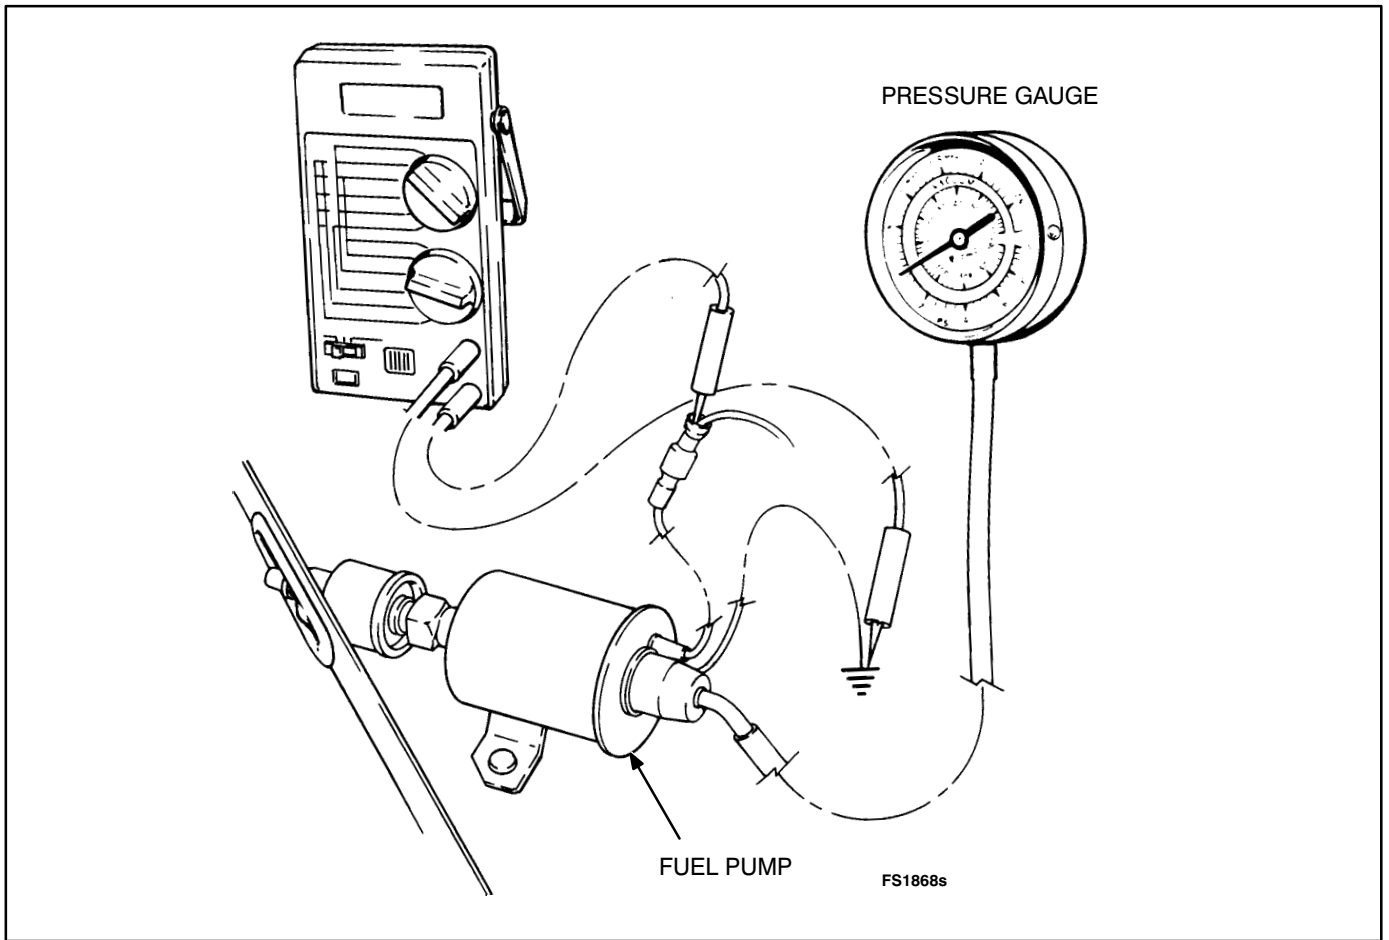

FIGURE 8-17. FUEL PUMP TEST
2. Check the the genset starting battery voltage when cranking and running the genset. Measure battery voltage between the brown lead and ground (Figure 8-17). The pump will not work properly if the cranking or running voltage is less than 6 VDC.